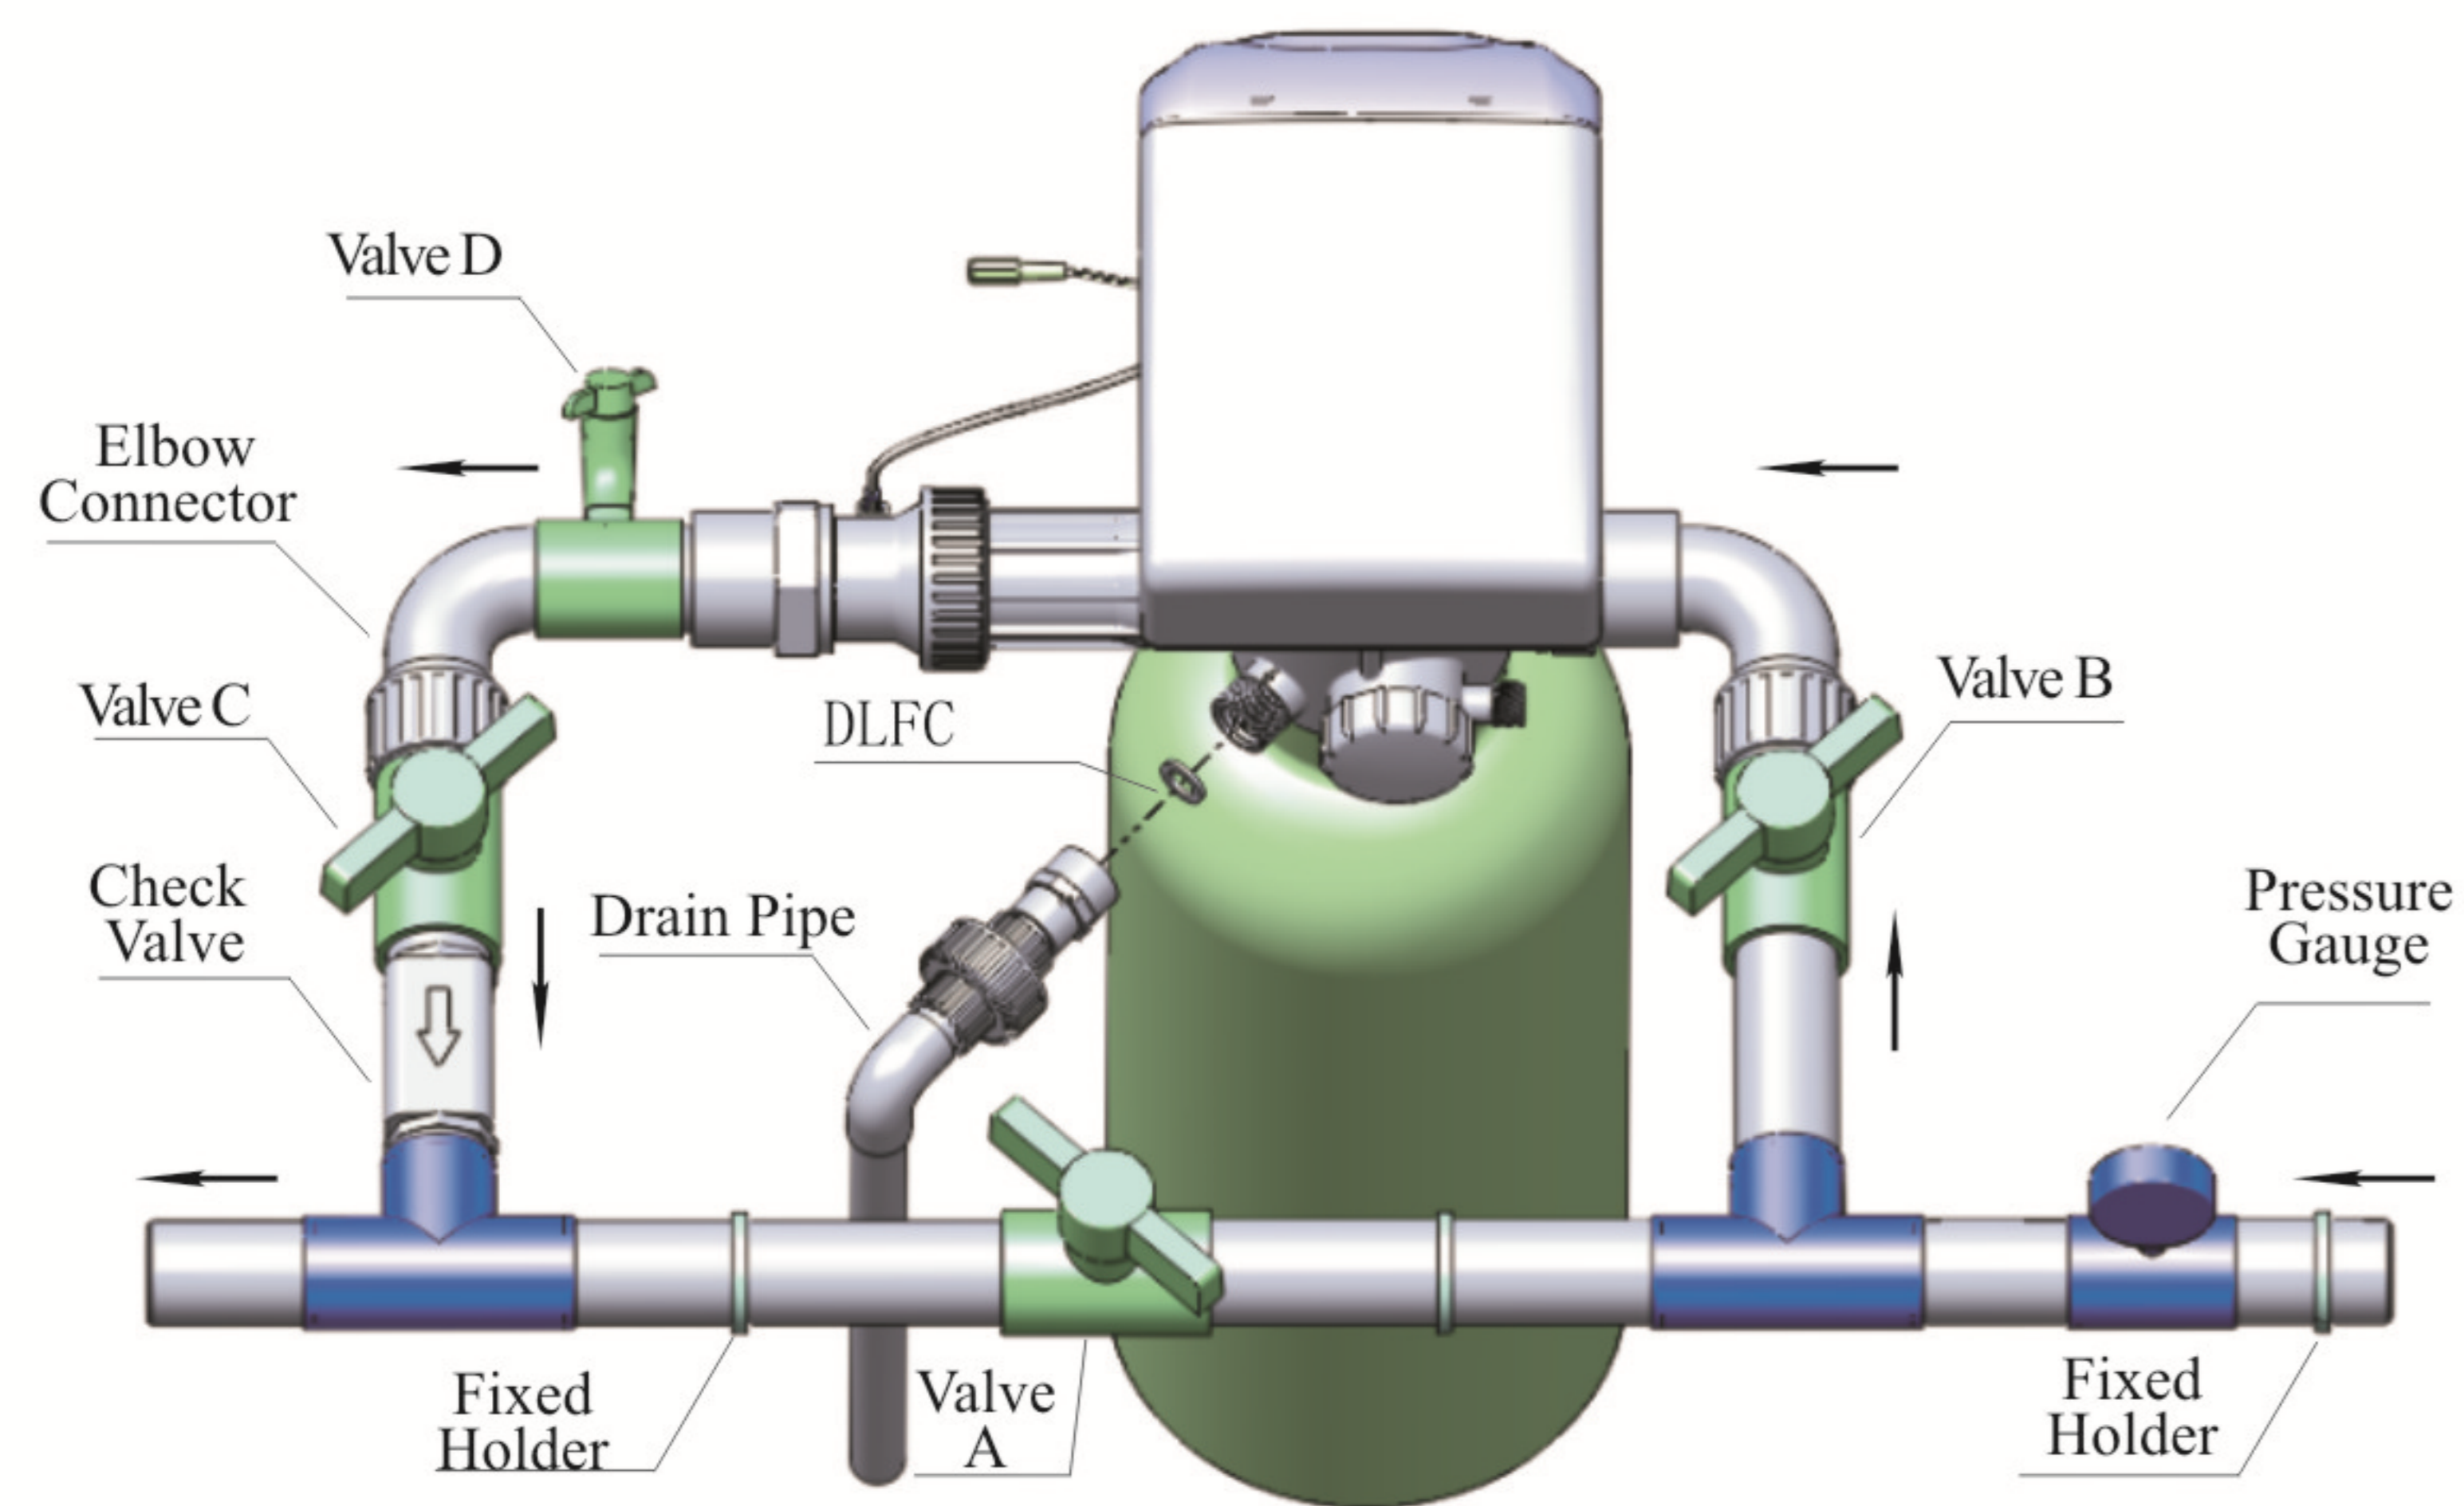

Figure1-3
③ Pipeline connection
a. As Figure 1-3 shows, install a pressure gauge in water inlet.
Insert drain line flow control into drain outlet and connect the drain outlet with the animated nut, as Figure 1-3 shows.